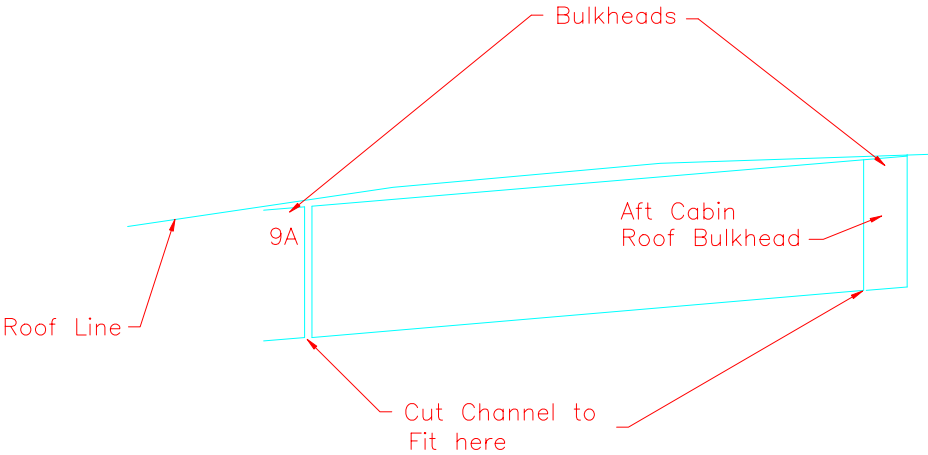

Figure 15.8.1
- 2) Cut a piece of ST-31 channel to fit between bulkhead 9A and the aft roof bulkhead along the roof line. Figure 15.8.1.